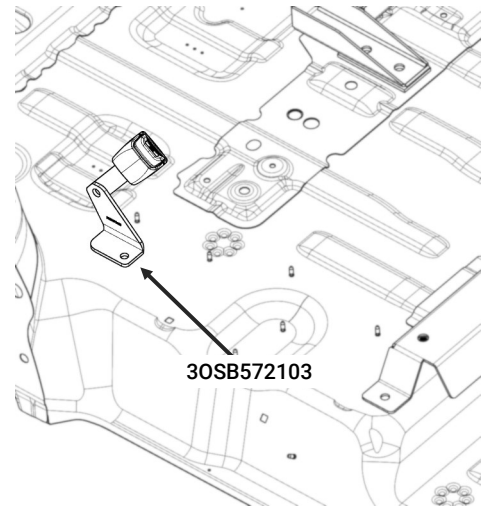

Figure 3
- E. Locate the Passenger Seatbelt Bracket [3OSB572103] and place it over the rear outboard hole which was used by the seat. Orient the bracket such that the rectangular flange is against the floor pan and the triangular flange is toward the inside of the vehicle (Fig. 3).
- F. Place the Lower Buckle [3OSB000002] against the outside of the bracket and align the long edge of the stake with the rear face of the Seatbelt Bracket. Securely fasten with (1) 7/16" hex bolt [3X616] and (1) 7/16" nylon lock nut [3X614].
- G. If installing an OSB belt on the driver side of the vehicle repeat steps E. and F. for the driver side with the Driver Seatbelt Bracket [3OSB572102], the second Lower Buckle [3OSB000002], (1) hex bolt [3X616], and (1) nylon lock nut [3X614].